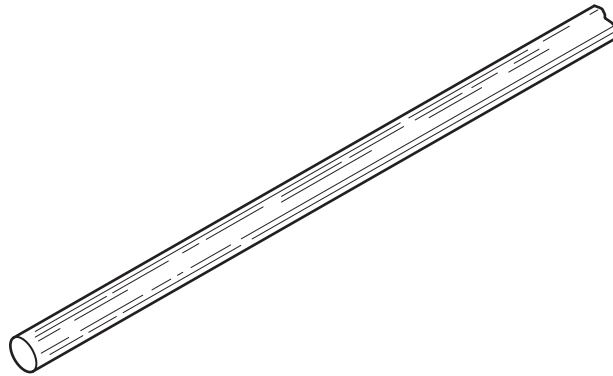

Fig. 13.5
- (ii) Fig. 13.5 shows part of a length of $\text{Ø}5$ dowel.